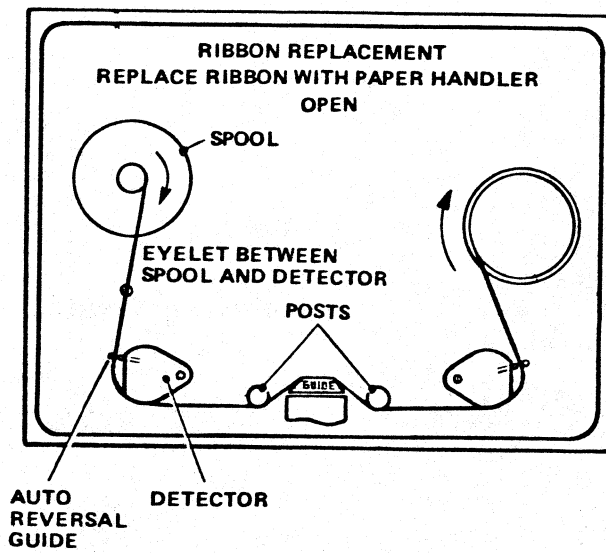

Figure 2-5. Spool to Spool Ribbon Path
4. Install the new ribbon – Install the empty spool on the left spool holder so that the counter clockwise rotation of the spool will rewind the ribbon. Ensure that the Reversal Actuating Eyelet is between the spool and the left Auto Reversal Guide. Position the ribbon in the ribbon path as shown in figure 2-5, and install the full spool on the right spool holder.